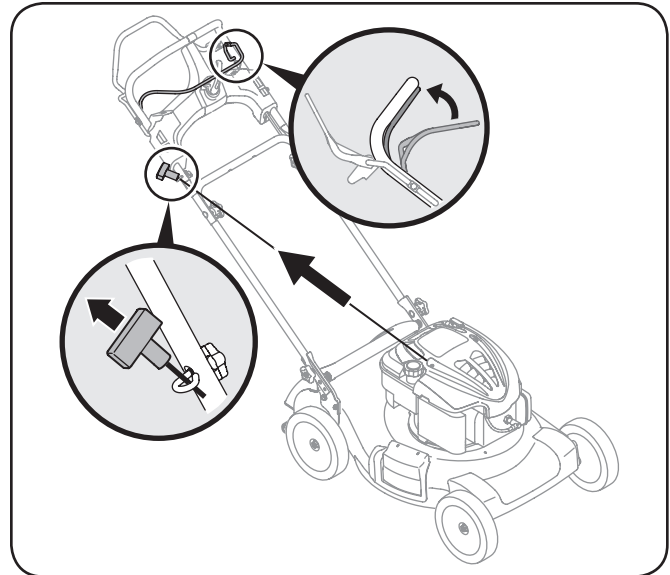

Figure 5-1
1. Push primer (if equipped) three times. Wait about two seconds between each push. See Fig. 5-1. In temperature around 55°F or below, prime five times. Do not prime to restart a warm engine.
2. Standing behind the mower, squeeze the blade control against upper handle. See Fig. 5-1.
3. Grasp recoil starter handle and pull rope out with a rapid, continuous, full arm stroke. See Fig. 5-1. Keeping a firm grip on the starter handle, let the rope rewind slowly. If engine does not start after 10 seconds of repeated pulls, wait a few minutes and repeat.